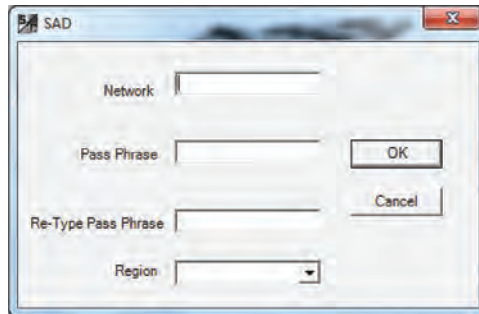

Figure 4. The Security Association Database dialog box.
STEP 2. Click the **Create** button to create a Security Association Database (SAD). The SAD dialog box will open. See Figure 4.